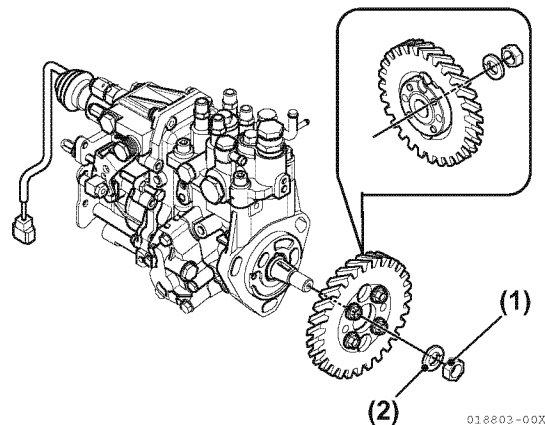

Figure 6-35
20. Once the fuel injection pump drive gear and hub assembly has “popped” loose from the tapered fuel injection pump driveshaft, carefully remove the drive gear nut (Figure 6-35, (1)) and lock washer (Figure 6-35, (2)).